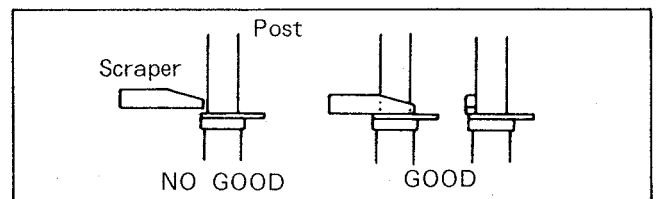

Fig. M7 Post Adjustment
4. Slightly lower the pull-out post by turning the nut on the post clockwise with the nut driver, and set the side of the scraper against the post as shown in Fig. M7.